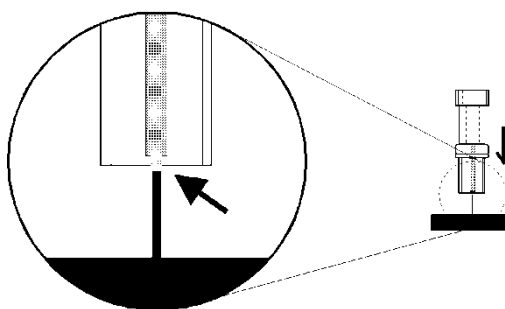

Fig. 24. Pushing the cotton wool frit out.
1. Use a drill of  $\pm 1$  mm (0.039 inch) to push out the frit from the outside (Fig. 24). Be careful not to damage the frit constriction (first arrow).